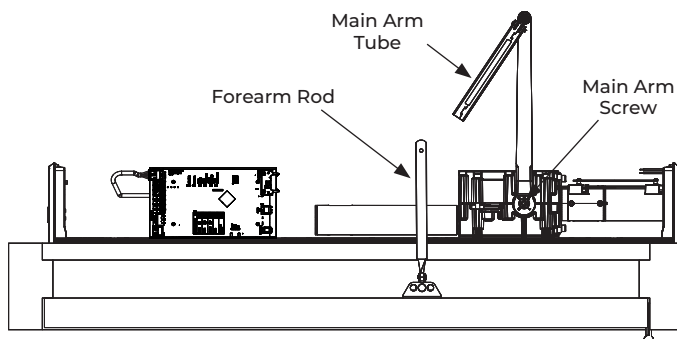

Fig. 15 View: Looking up from floor
1. Using hex wrench, secure main arm to bottom pinion with 1/4-20x 1/2" screw. (Fig. 15)
2. Slide main arm tube onto forearm rod. (Fig. 15)